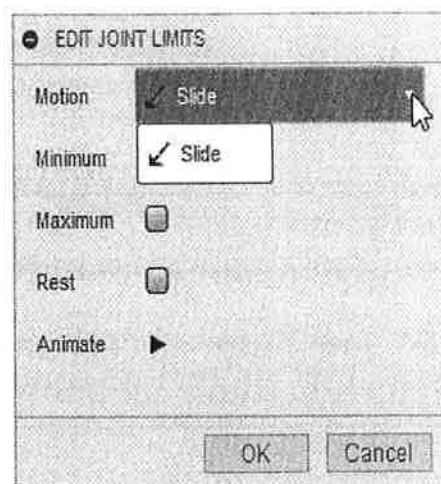

Figure 16–37
8. The EDIT JOINT LIMITS palette opens. It identifies that the only permitted motion of this joint is sliding, as shown in the *Motion* drop-down list in Figure 16–37.